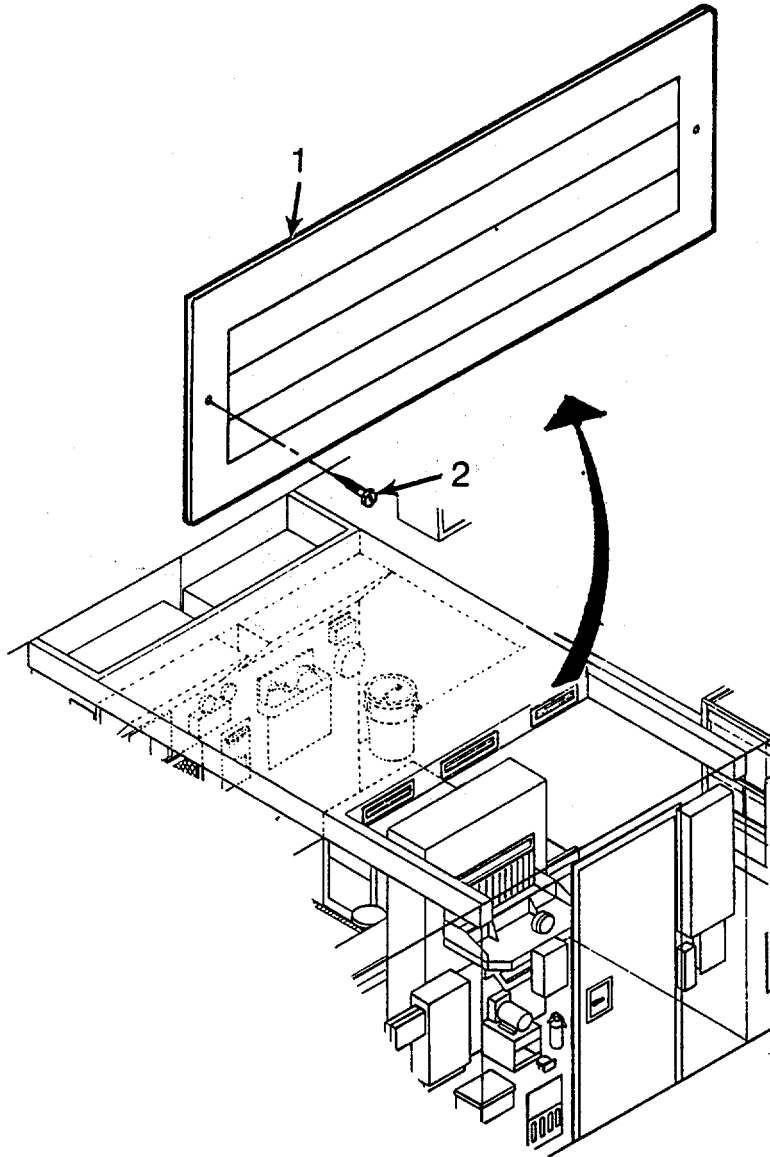

Figure 4-8. End Registers
b. Repair by replacing end register (1). (See figure 4-8.)
(1) Remove mounting screws (2) and remove end register (1) from AC ducting assembly (3).
(2) Align replacement end register (1) over holes in AC ducting assembly (3) and secure in place with mounting screws (2).